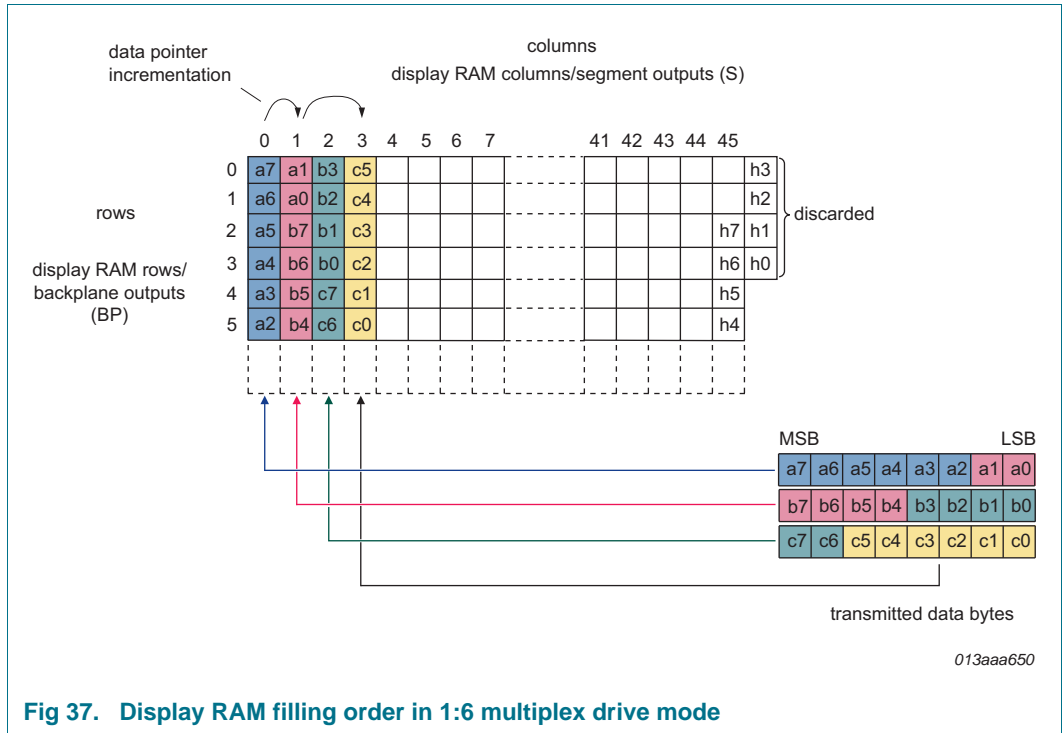

Fig 37. Display RAM filling order in 1:6 multiplex drive mode
- by one or two (1:6 multiplex drive mode), see Figure 37 on page 49
In the 1:6 multiplex drive mode the RAM is organized in six rows and 46 columns. The eight transmitted data bits are placed in such a way, that a column is filled up (see Figure 37). The remaining bits are wrapped up into the next column. In order to fill the whole RAM addresses 35 bytes need to be sent to the PCA8537, however the four least significant bits of the 35th byte are discarded.
When data transfer is initiated, then the MSB of the first byte will always be placed in row 0. Data must be transferred contiguously to achieve RAM filling as described in Figure 37.